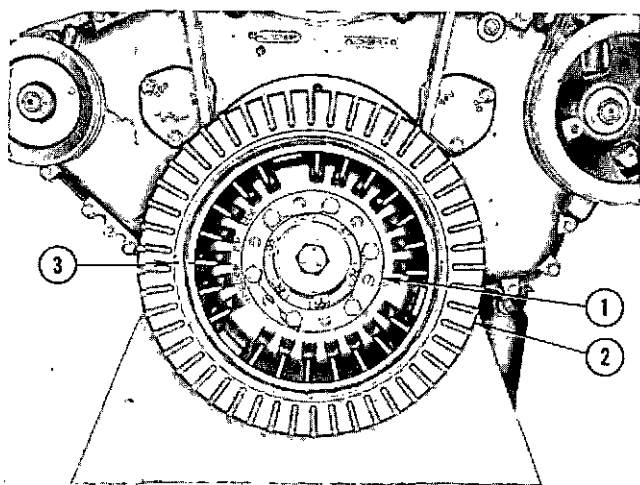

Fig. 2-54 (V41932) Vibration damper alignment marks
Damper hub (1, Fig. 2-54) and inertia member (2) are stamped with an index mark (3) to permit detection of movement between the two components.